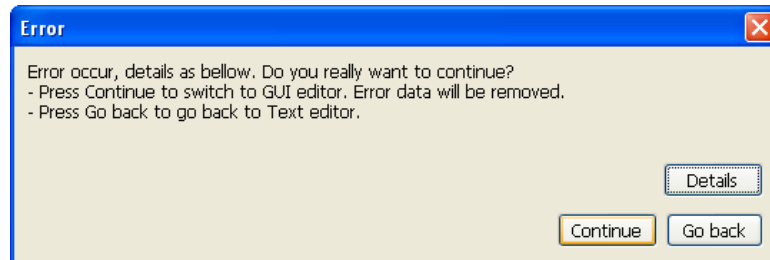

Figure 3-13: Error dialogue in first time
2. In the first dialogue of GUI editor, an error appears as in Figure 3-13 .The reason that the LDF file in text editor mode has no information or information is incorrect.